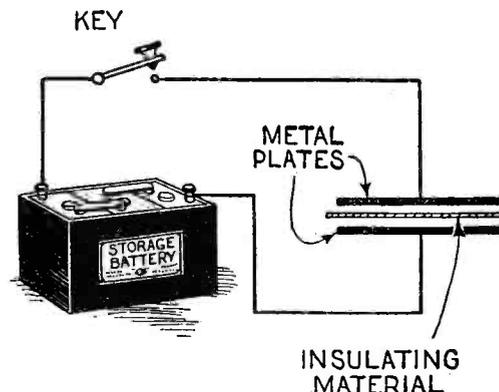

Fig. 1. A simple circuit for illustrating electrostatic induction.
**ELECTROSTATIC INDUCTION**—The production of a charge in a body due to the presence of an opposite charge in a nearby conductor, or synonymous with displacement in the case of a condenser. Electrostatic influence or induction is the basis on which condensers operate. In the illustration *Fig. 1* is a simple circuit containing a source of potential, which in this case is a battery. As the circuit is closed through the key a momentary flow of current takes place. This flow of current is accompanied by a condition of electric strain in the insulating material of the condenser. The electrically strained dielectric or insulating material exerts a back pressure against the pressure or force of the battery, and when this back pressure is equal to the original battery pressure the flow ceases. The strain in this dielectric is known as *electric displacement* and this displacement can be transmitted or passed on to neighboring parts of the medium and thence into space. Under the proper conditions this displacement and the magnetic field which accompanies it may be detached from the circuit and move independently in space. This is the fundamental process in the radi-